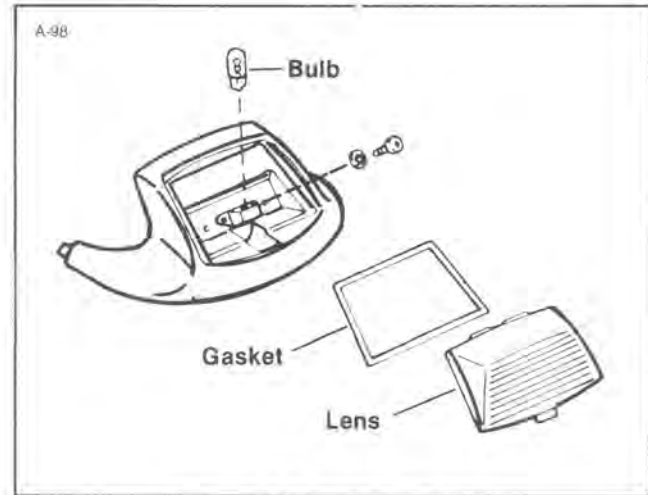

Figure 2-3. Fender Tip Light
1. See Figure 2-3. Insert a small screwdriver blade into the cut-out or notch on the upper edge of lens and gently pry downward to remove lens.